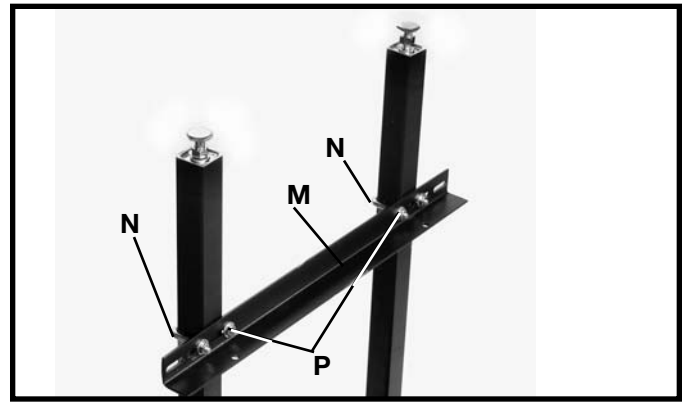

Fig. 48
4. Assemble shelf support bracket (M) Fig. 48 to the table legs (A) using two U-clamps (N), 1/4" flat washers, and 1/4-20 hex nuts (P). **NOTE:** Height adjustments to the bracket can be made later.